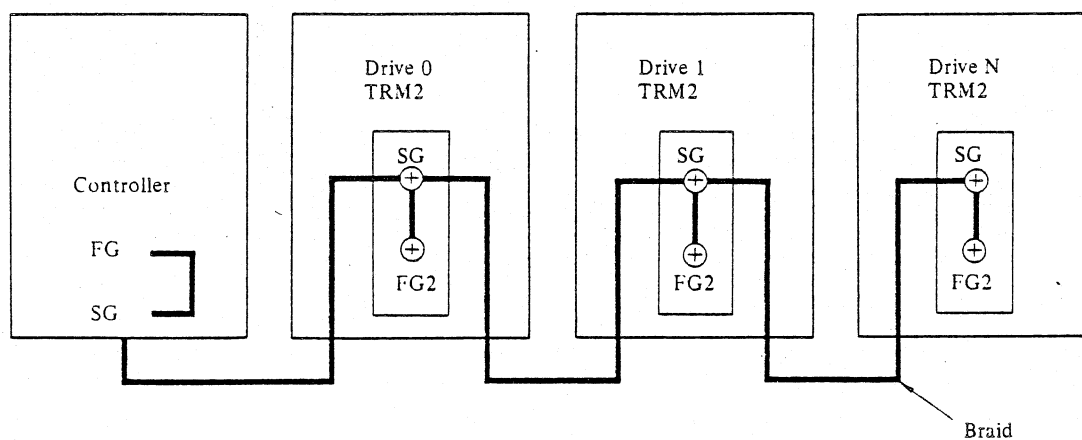

Fig. 4.3-2 SG/HI Z FG2 Common
- (a) Leave SG connected to FG2 (shipping configuration) and connect a flat braid wire to controller ground. If daisy-chained, daisy-chain the braid from SG to SG as shown in Figure 4.3-2.